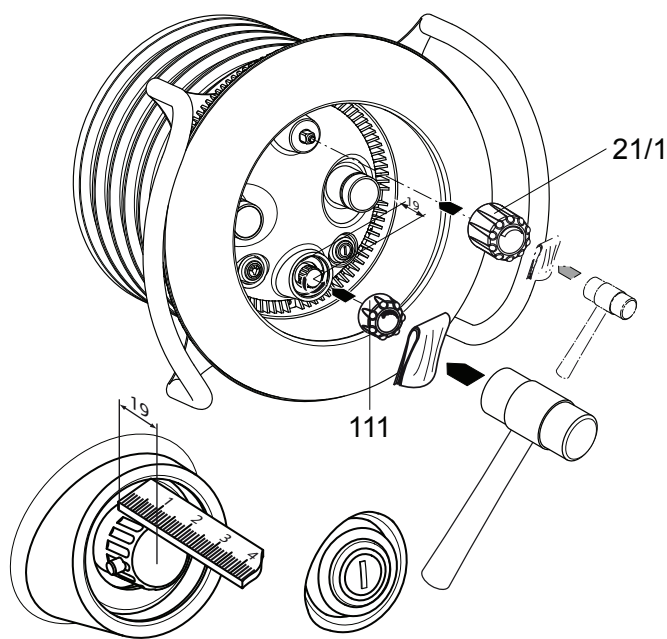

Figure 17
12. Mount the volume control knob (part# 21.1) and air regulator knob (part# 111) by means of a rubber mallet and a protective cloth. (See Figure 17)